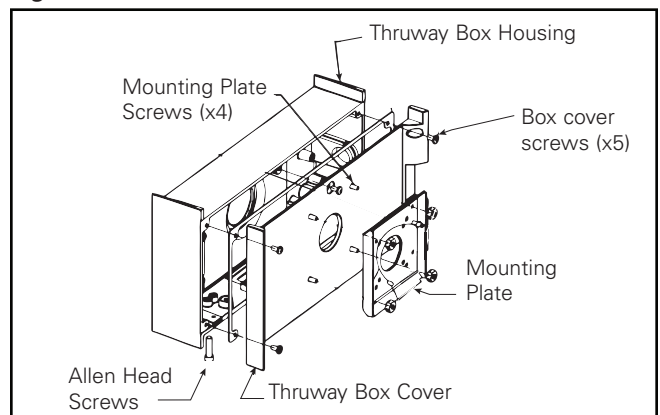

Figure 2a.
4. Re-tighten the two (2) Allen head screws to secure the thruway box to the mounting plate.
6. Remove the thruway box cover from the thruway box housing by loosening five (5) screws. (Figure 2a.)